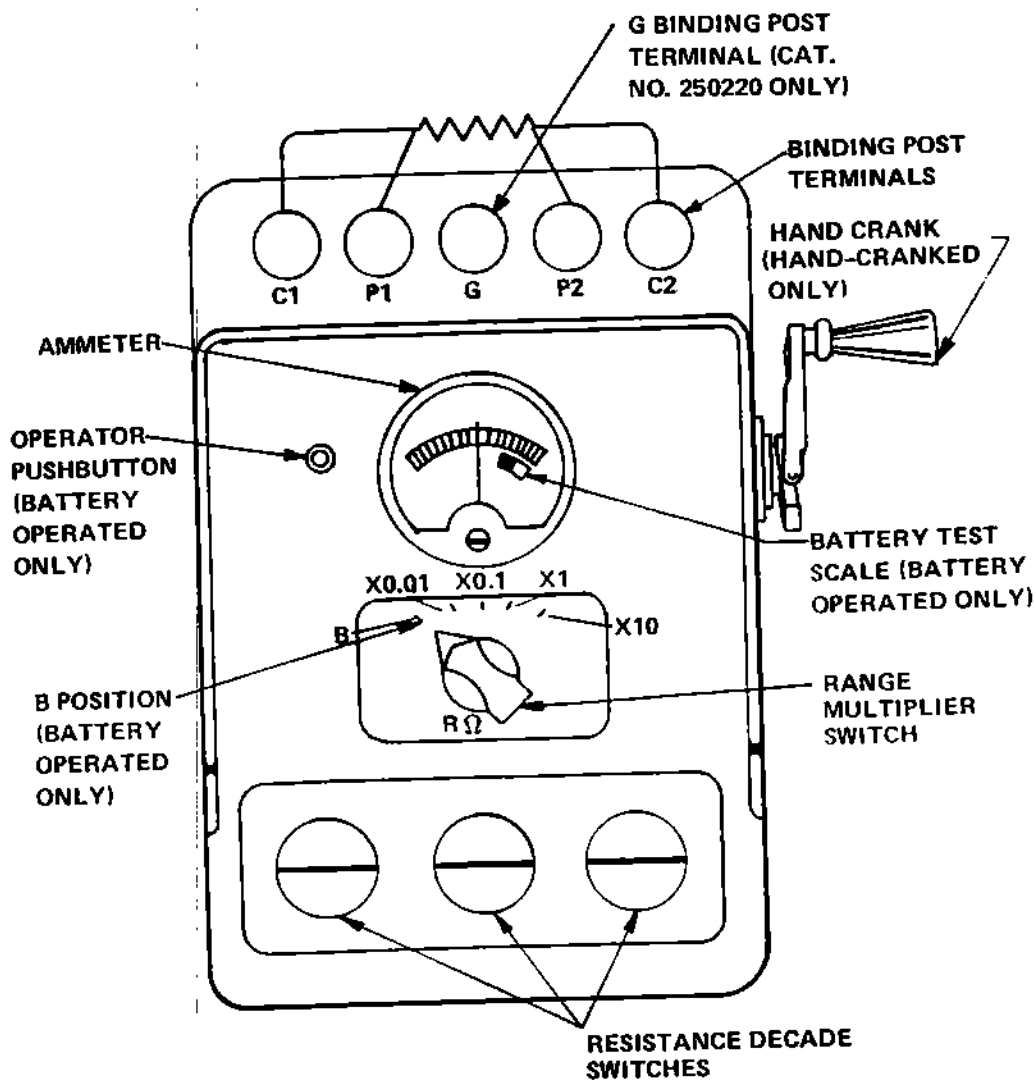

Figure 3-1. Megger Null Balance Earth Tester, Controls and Indicators for Battery-Operated and Hand-Cranked Models.
a. DESCRIPTION OF CONTROLS. All operating controls used on the earth tester are listed in Table 3-1, and Figure 3-1 shows the arrangement of the operating controls on the earth tester.
b. METHOD OF OPERATION. The earth tester contains either a hand-driven ac generator or a battery-driven oscillator which passes current through the resistance under test from terminal C1 to C2 and the consequent potential across terminals P1, and P2 causes a meter to deflect. (See Figure 3-1.)
With the earth tester connected in accordance with paragraph 3-3 for the test required, operate the earth tester as follows (refer to Figure 3-1 for controls and indicators):